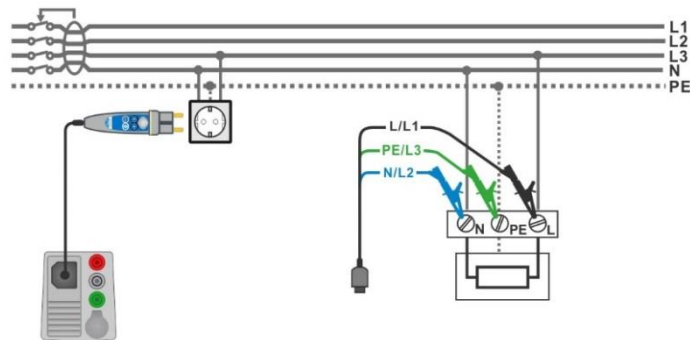

Figure 7.47: Connection of Plug commander and 3-wire test lead
- ▶ Connect 3-wire test lead or Plug commander to the object under test, see **Figure 7.47**.